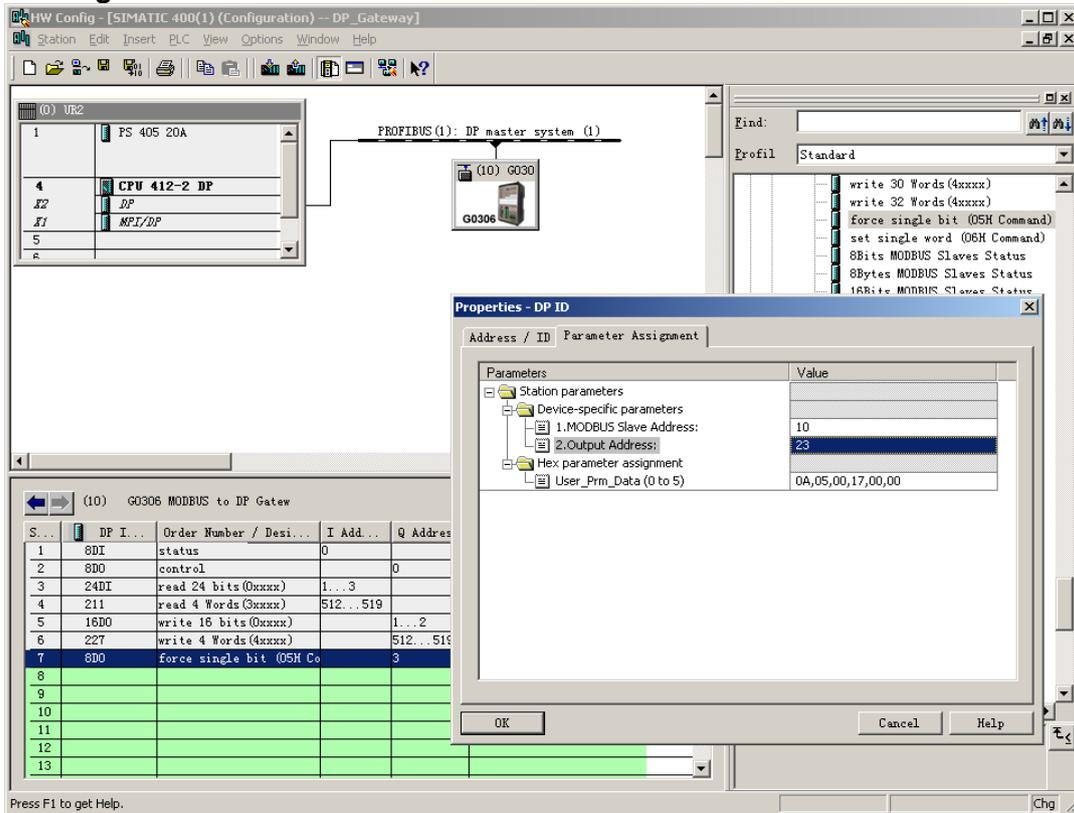

Figure 29 Configure User Parameters of “force single bit (05H Command)” Module
**b) Configure user parameters of “force single bit (05H Command)” module, shown in Figure 29:**
"1.MODBUS Slave Address: "⇒Type MODBUS slave address 10, shown in Figure 29.
"2.Output Address:" ⇒Type output address 00024 of coil 0xxxx to be written, set address as 23⇒"OK", shown in Figure 29.
As shown in Figure 29, QB3 is PROFIBUS output address of Modbus module assigned by PROFIBUS master station, total 1 byte, corresponding to single coil (0xxxx) of Modbus device written by the Modbus message. The Modbus module sends Modbus command 05 based on QB3 value, set single coil 0xxxx of the Modbus device to 1 or 0. Here single coil output address is 00023, if QB3=0, send command to set single coil 00024 to 0; If QB3≠0, send command to set single coil 00024 to 1.